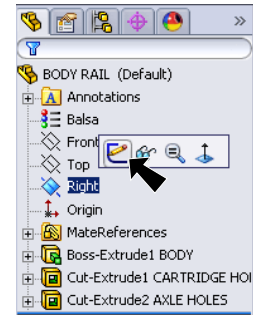

Fig. 6
Step 1. Click **Right**  (plane) in the Feature Manager and click **Sketch**  from the Content toolbar, **Fig. 6**.